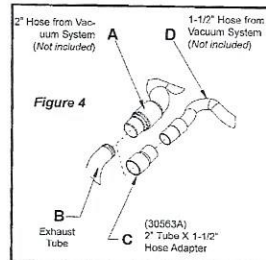

Figure 4
- Install 2" hose end (Figure 4 - A) directly into the exhaust tube (Figure 4 - B).